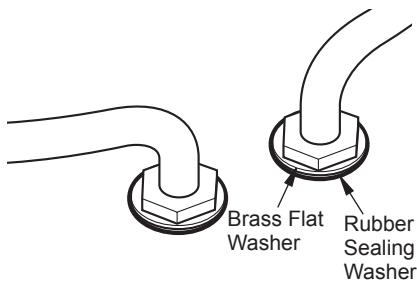

Figure 9 - Tubular Heating Element Sealing Washers
2. The tubular heating element rubber sealing washers must be against the top surface of the steel pan and under the brass flat washers as shown in Figure 9. Nuts on opposite side of pan must be tightened 1/2 turn past finger tight.